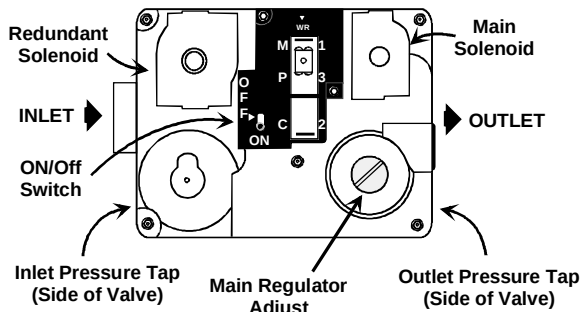

**Figure 6**
- White Rodgers Model 36E22 or 36E23:* Push the selector switch to "OFF". (Figure 6)
- White Rodgers Model 36E22 or 36E23:* Push the selector switch to "ON". (Figure 6)
*White Rodgers Model 36E22 or 36E23:* Push the selector switch to "OFF". (Figure 6)